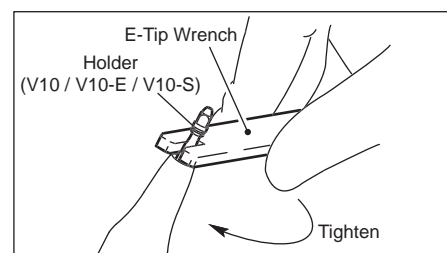

Fig. 1
- 1) Screw V10 / V10-E / V10-S into a handpiece by hand until it is tightened lightly. Then, tighten it securely with the wrench (E-Tip Wrench). (Fig. 1)